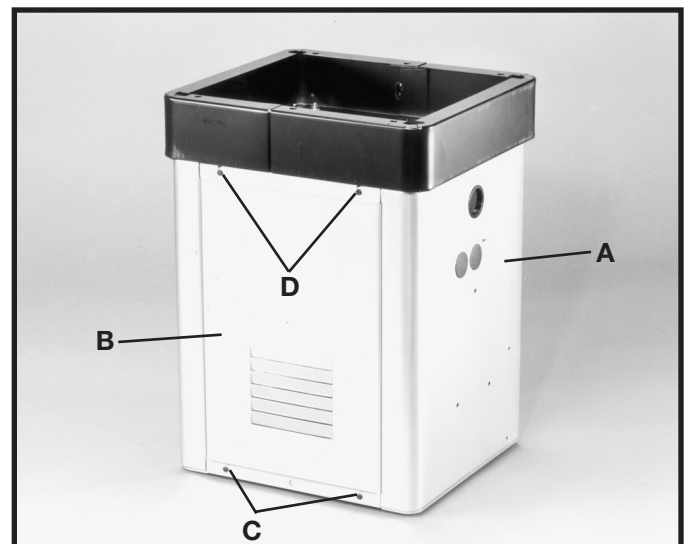

Fig. 1
1. Remove the stand (A) Fig. 1, from the shipping container being careful not to crimp the switch cord which extends through the top of the stand. **NOTE:** Set the stand on several blocks of wood to raise the stand off the floor surface.
2. Remove panel (B) Fig. 1, from stand (A) by removing two screws (C) and loosening two screws (D). Remove panel on opposite side of stand in the same manner.